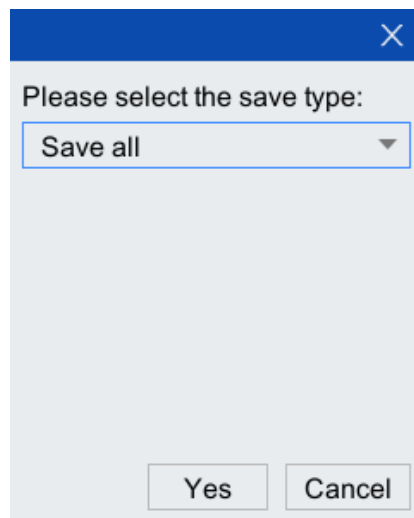

Figure 4-20 Save as type dialog
Step 6. After the parameter configuration is completed, click <Save>, and the dialog box shown in Figure 4-20 will pop up. Select "Save all" in [Please select save type], and click <Yes>.